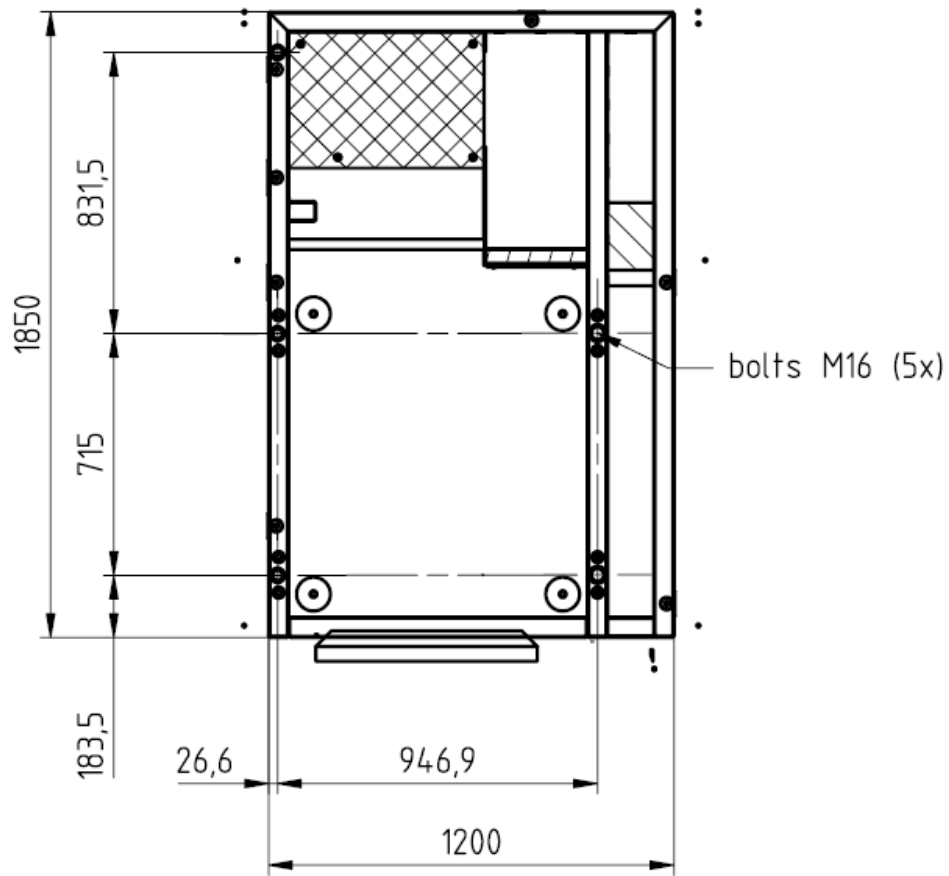

Figure 38: Bolts position with respect to frame (dimensions in mm)
If preferred by the customer, additional holes can be drilled to facilitate seismic bolt-down of the External E-cabinet and HT Tank. For a full configuration including optional cabinets this will require drilling of 9 holes (each of diameter 22 mm / depth 125 mm or diameter 0.125 inch / depth 5 inch) must be drilled as indicated in the floor layout in Figure 38.
1. Position the drilling jig in the proper place in the room (check floor layout Figure 38: "Bolts position with respect to frame \(dimensions in mm\)"). .